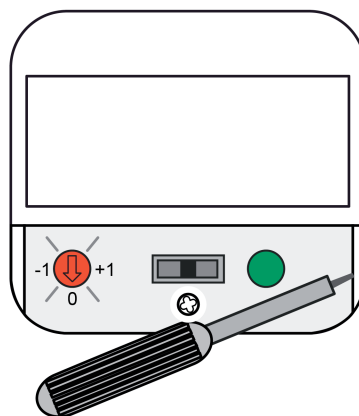

Figure 12: Dismounting of design cover of the device
- Use a screwdriver to remove the design cover of the device carefully (figure 12).